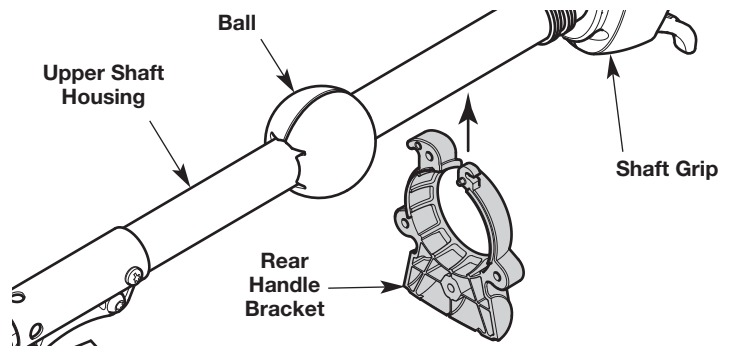

Fig. 4
2. Carefully push the rear handle bracket onto the upper shaft housing (Fig. 4). Make sure the rear handle bracket is between the ball and the shaft grip (Fig. 4).